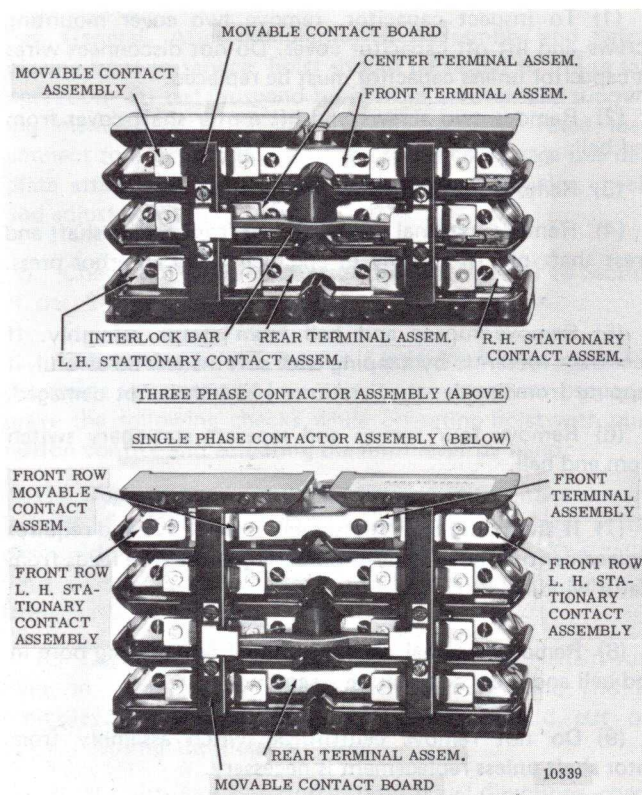

Figure 7-35. Bottom View Showing Single-Phase and Three-Phase Contactors.
**NOTE:** Contactors on single-phase hoists have four rows of contacts; while contactors on three-phase hoists have three rows of contacts (see figure 7-35). The front row of contacts on single-phase contactors are arranged in such a manner that the front row stationary contacts must first be removed to permit removing movable contact board assemblies.